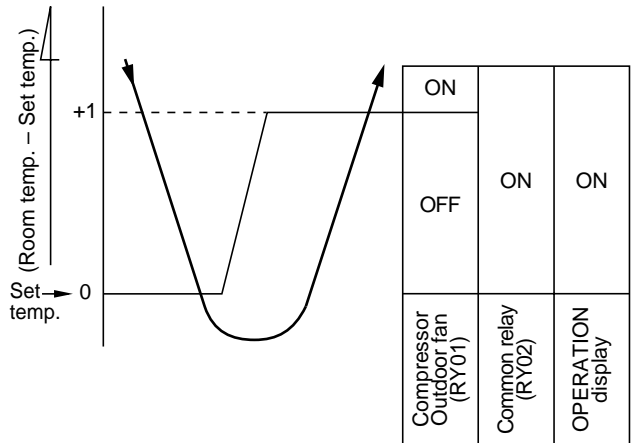

Fig. 7-2-1
- (1) Compressor, outdoor fan and operation display are controlled as shown in Fig. 7-2-1.